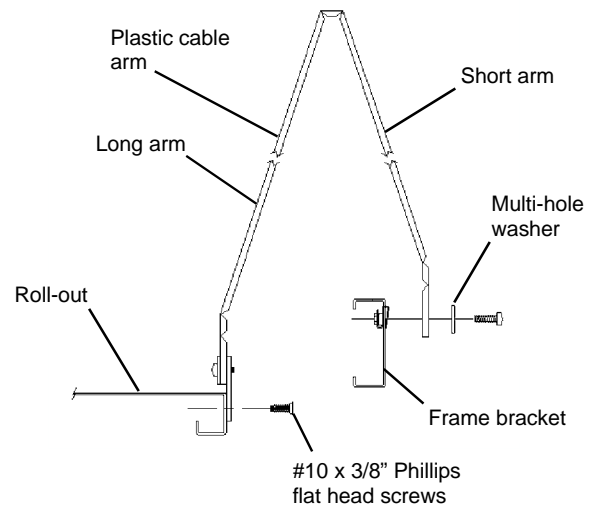

Figure 6
6. Attach the Cable Arm Bracket to the back of the roll-out using two #10 x 3/8" Phillips flat head self tapping screws. See **Figure 6**.
7. Now attach the free end of the Cable Arm to the Frame Bracket as shown in **Figure 6**.